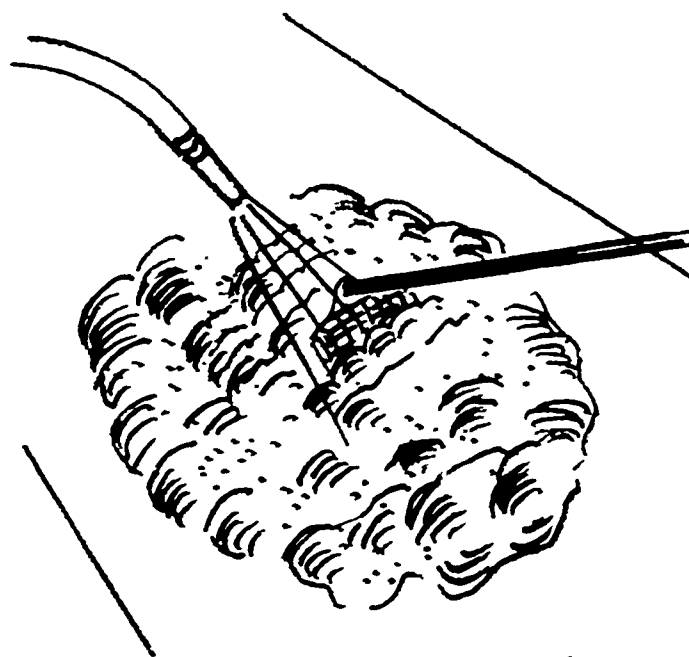

FIG. 504
3. Add water according to Table I mixing with a hoe as you proceed. See figure 504.